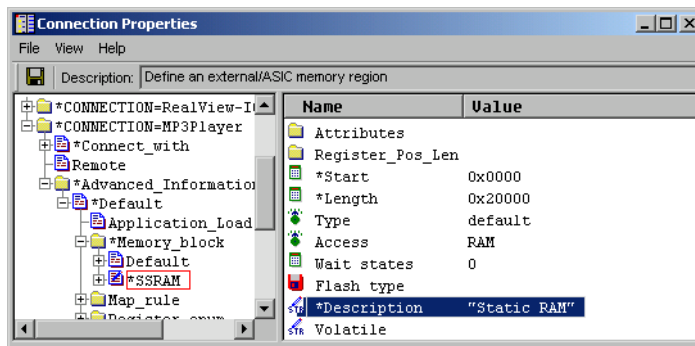

Figure 3-27 Viewing the contents of the new group
11. Set the value of Description to Static RAM as shown in Figure 3-27.